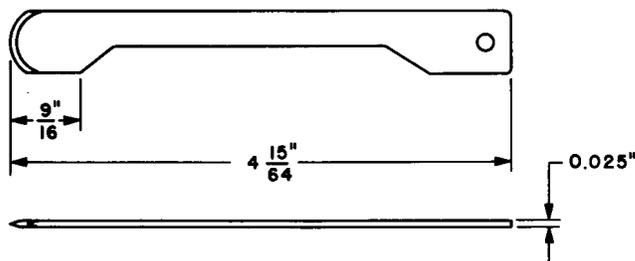

Fig. 1—338 Spring Insulator Tool
2.02 **338:** The 338 spring insulator tool (Fig. 1) is a strip of insulating material used to open the springs on line switchboards in step-by-step dial equipment for cutover purposes.